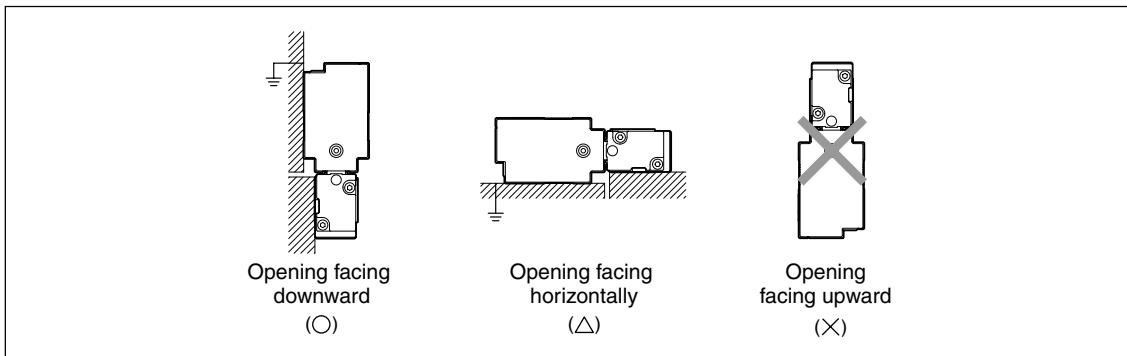

Fig. 2-1
- Install the scale with the opening on the scale unit facing downward. If the opening cannot be turned downward, it should face horizontally. Never install it facing upward. (Fig. 2-1)